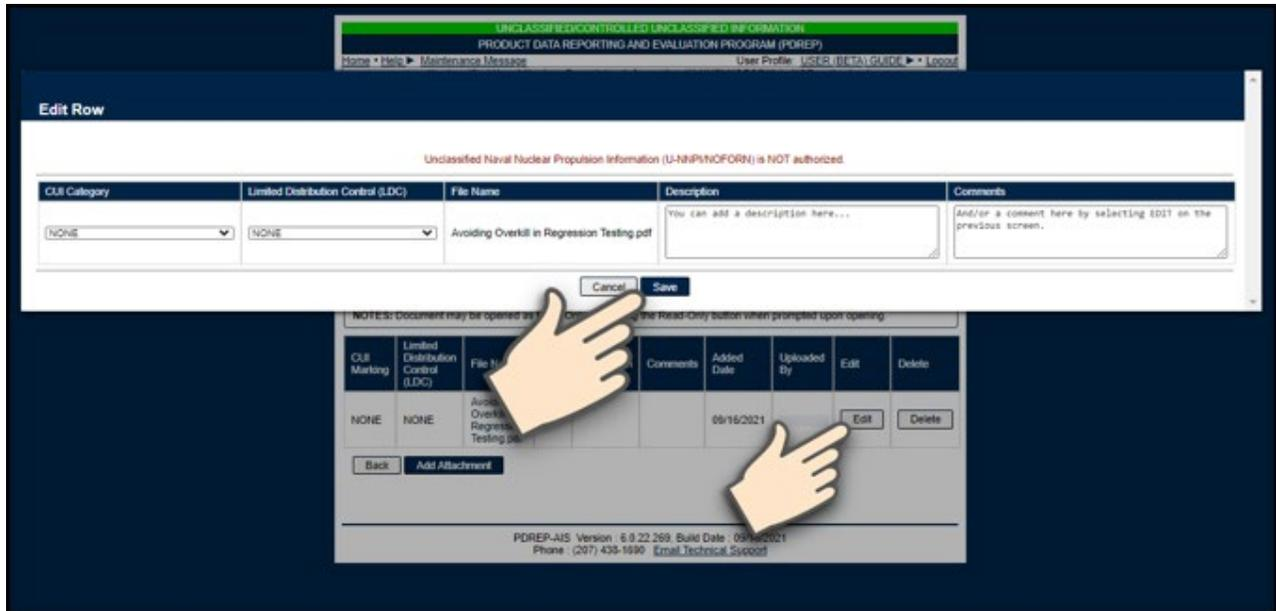

Figure 2.10
- E. After you have selected *Upload Attachments*, you will have the option to edit your upload selection (see **Figure 2.10**). Important to note that the record will show the added date and the user code of the person who originally uploaded the attachment.